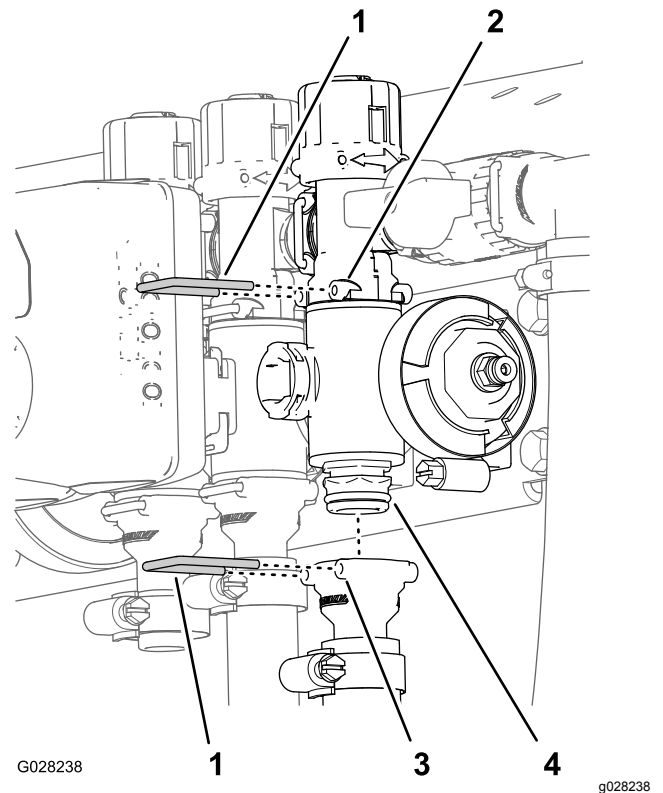

Figure 117
2. Remove the retainers that secure the outlet fitting to the section valve manifold and the valve manifold to the bypass fitting (Figure 117).